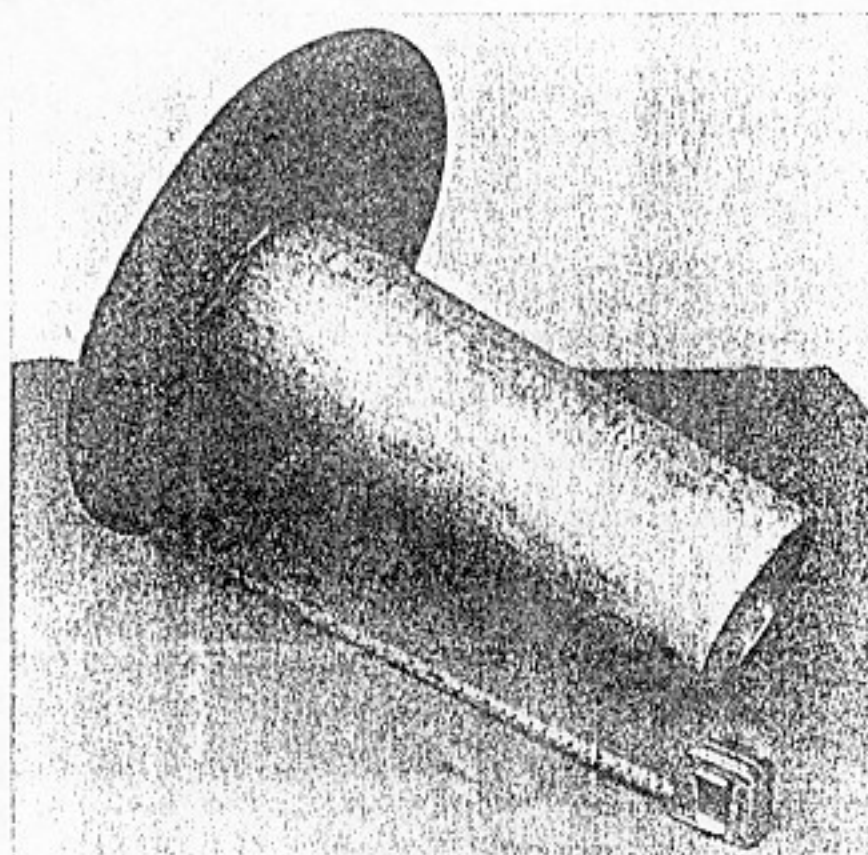

Fig. 2-3. The fire tube and circular top plate of the gasifier unit.
2. The circular top plate (Item 2A) should be cut to a diameter equal to the outside diameter of the gasifier housing drum (Item 3A) at its top. A circular hole should then be cut in the center of the top plate; the diameter of this hole must be equal to the outside diameter of the fire tube. The fire tube (Item 1A) should then be welded at a right angle to the top plate (Item 2A) as shown in Fig. 2-3.